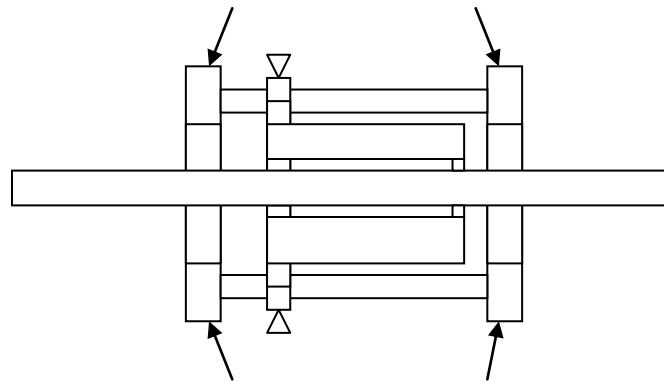

Figure 2
There is a set screw located in the top and bottom of each wall bracket. See (4) arrows for locations. (Fig. 2).
There is a set screw in the top and bottom of the hinge bracket. See (2) triangles for locations. (Fig. 2)